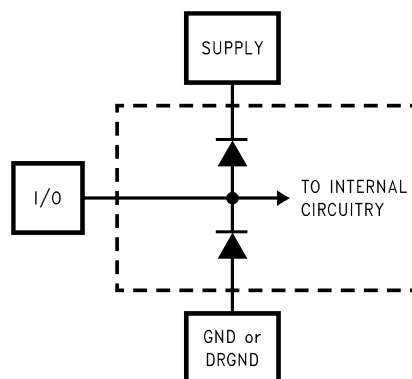

Figure 1.
- (1) The inputs are protected as shown below. Input voltage magnitudes above V_A or below GND will not damage this device, provided current is limited per ⁽¹⁾. However, errors in the A/D conversion can occur if the input goes above V_A or below GND by more than 100 mV. As an example, if V_A is 4.75V, the full-scale input voltage must be $\leq 4.85V$ to ensure accurate conversions. See Figure 1
- (2) To ensure accuracy, it is required that $|V_A - V_D| \leq 100\text{ mV}$ and separate bypass capacitors are used at each power supply pin.
- (3) With the test condition for $V_{REF} = +2.0V$ (4V_{P-P} differential input), the 12-bit LSB is 977 μV .
- (4) Typical figures are at $T_A = T_J = 25^\circ\text{C}$, and represent most likely parametric norms. Test limits are specified to TI's AOQL (Average Outgoing Quality Level).
- (5) Integral Non Linearity is defined as the deviation of the analog value, expressed in LSBs, from the straight line that passes through positive and negative full-scale.
- (6) Optimum performance will be obtained by keeping the reference input in the 1.8V to 2.2V range. The LM4051CIM3-ADJ (SOT-23 package) is recommended for this application.
- (5) Typical figures are at $T_A = T_J = 25^\circ\text{C}$, and represent most likely parametric norms. Test limits are specified to TI's AOQL (Average Outgoing Quality Level).
- (6) I_{DR} is the current consumed by the switching of the output drivers and is primarily determined by load capacitance on the output pins, the supply voltage, V_{DR} , and the rate at which the outputs are switching (which is signal dependent). $I_{DR} = V_{DR}(C_0 \times f_0 + C_1 \times f_1 + \dots + C_{11} \times f_{11})$ where V_{DR} is the output driver power supply voltage, C_n is total capacitance on the output pin, and f_n is the average frequency at which that pin is toggling.
- (7) Excludes I_{DR} . See previous note.
- (1) The inputs are protected as shown below. Input voltage magnitudes above V_A or below GND will not damage this device, provided current is limited per ⁰. However, errors in the A/D conversion can occur if the input goes above V_A or below GND by more than 100 mV. As an example, if V_A is 4.75V, the full-scale input voltage must be $\leq 4.85V$ to ensure accurate conversions. See Figure 1
- (2) To ensure accuracy, it is required that $|V_A - V_D| \leq 100$ mV and separate bypass capacitors are used at each power supply pin.
- (4) Timing specifications are tested at TTL logic levels, $V_{IL} = 0.4V$ for a falling edge and $V_{IH} = 2.4V$ for a rising edge.
- (5) Typical figures are at $T_A = T_J = 25^\circ C$, and represent most likely parametric norms. Test limits are specified to TI's AOQL (Average Outgoing Quality Level).